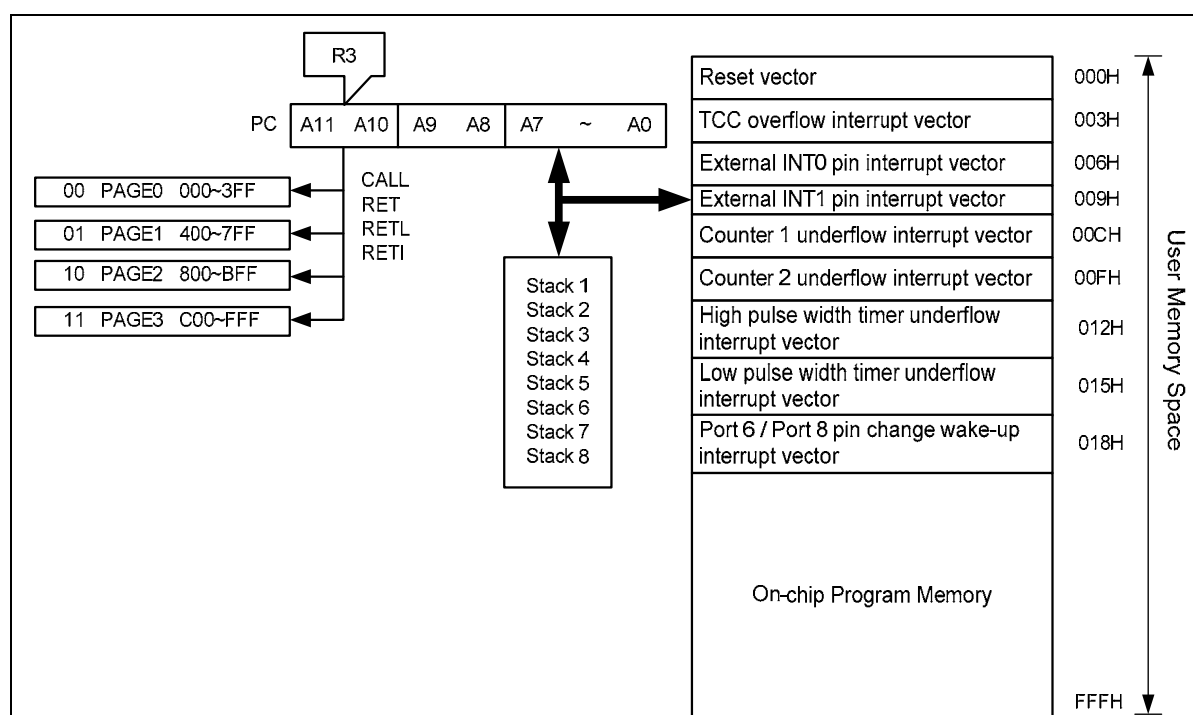

Figure 6-1 Program Counter Organization
- The R2 structure is depicted in Figure 6-1 shown below.